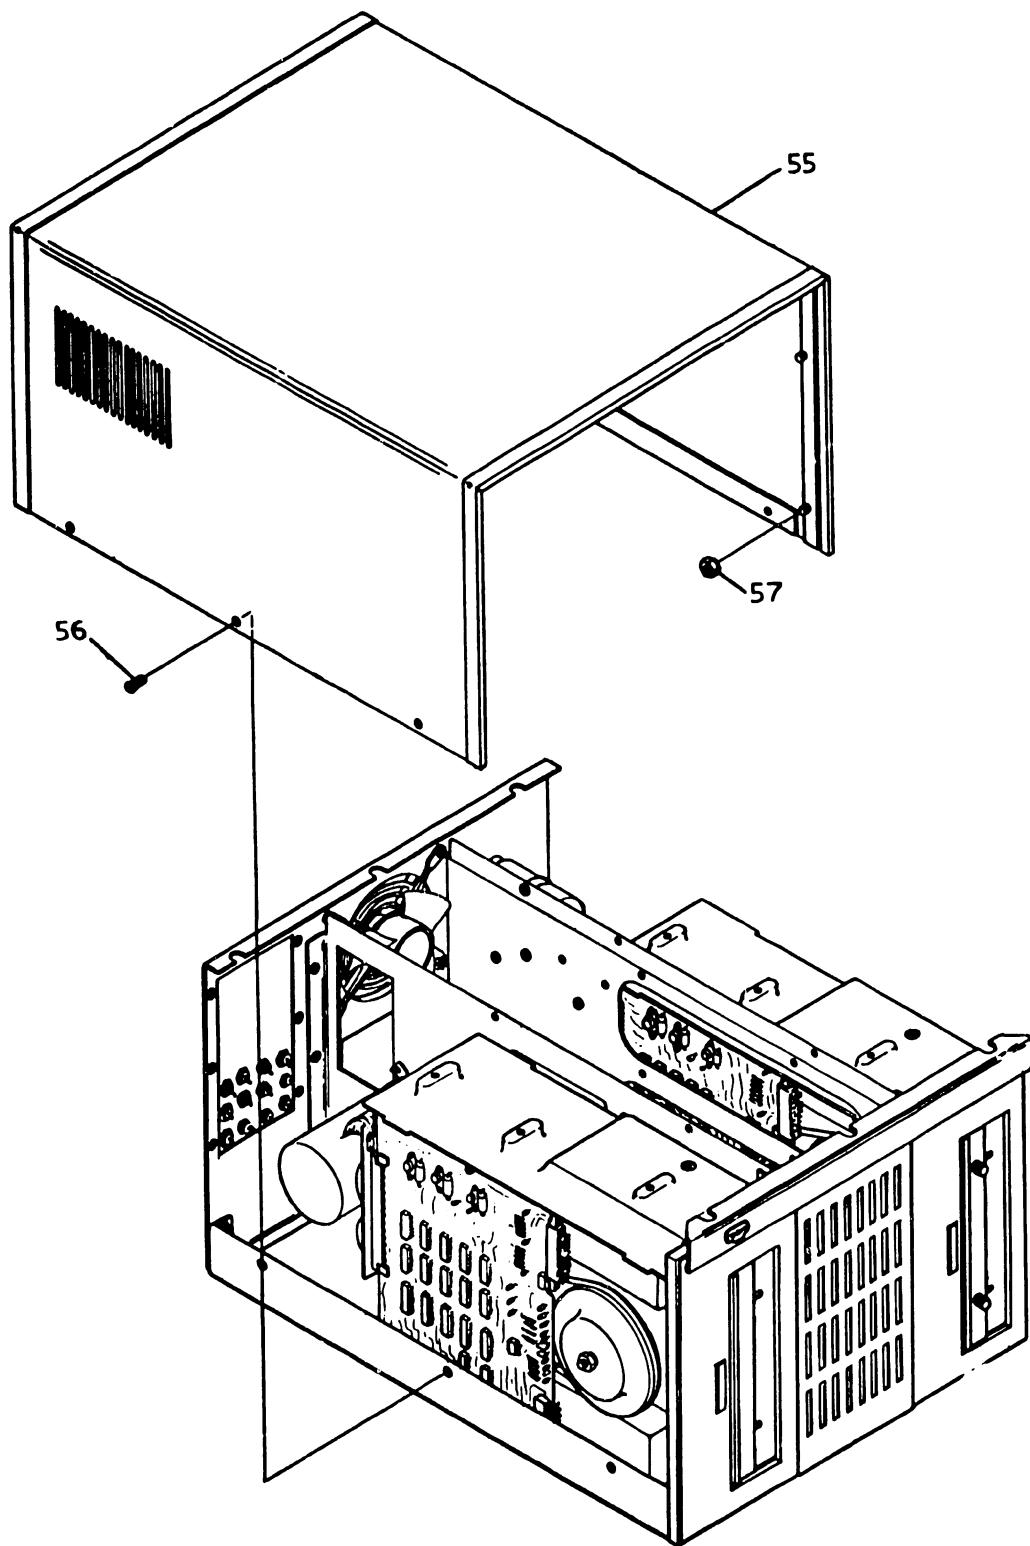

FIGURE 2-1 MASTER CPU/DUAL FLOPPY (928 M1/M2)
Master CPU/Dual Floppy (928 M1) Chassis Assembly with cover removed (Model 5520) Figure 2-1.
**(FIGURES 2-1 & 2-2)**